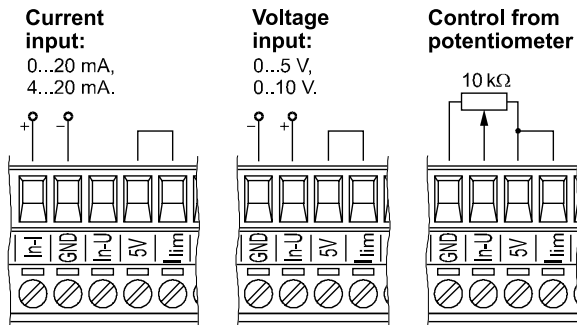

Fig. 5. Connection of control signals
In case of using the current limitation potentiometer on the power controller frontal plate, one must short-circuit 5 V and Limit terminals, fig. 5.
- g) set the initial value of the triggering angle*, according to p. 6.6. Increase the input control signal up to reach the current value I_r necessary to the motor start, next decrease gradually on the „ α_{max} ” potentiometer, up to turn off, fig. 5. In this case, the control range depends on the set current I_r value to the rated load current I_n value.